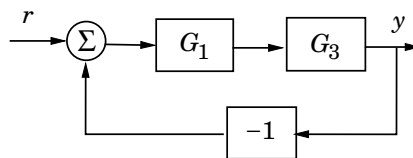

Figure 7.2 A feedback system.
- Calculate the transfer function from r to y in Figure 7.2.